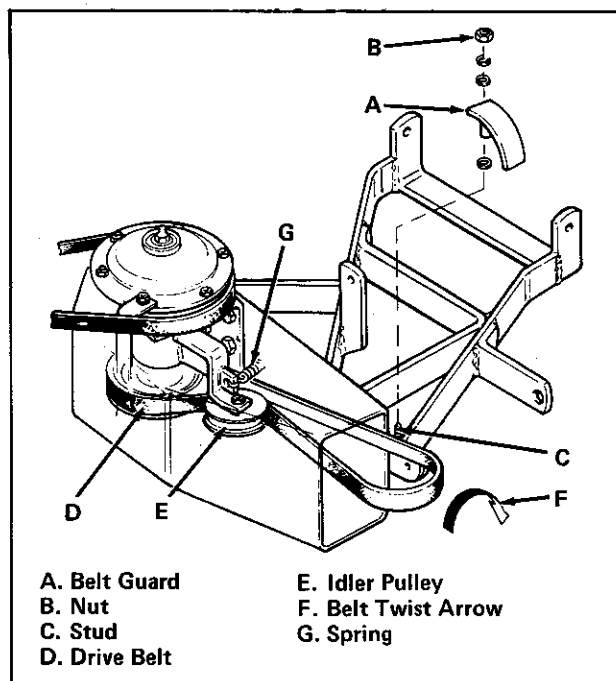
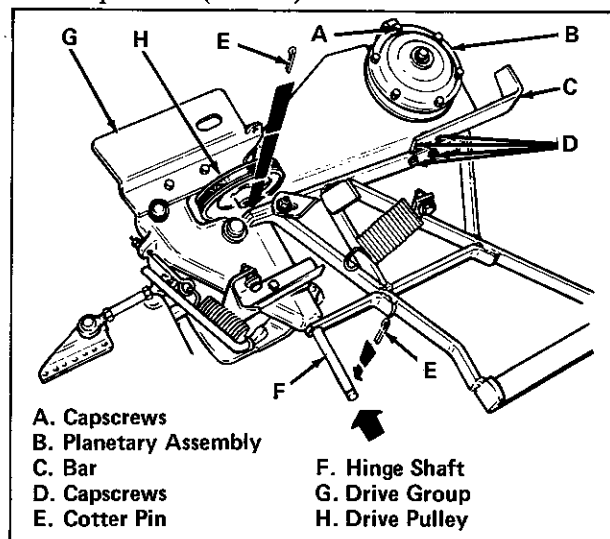
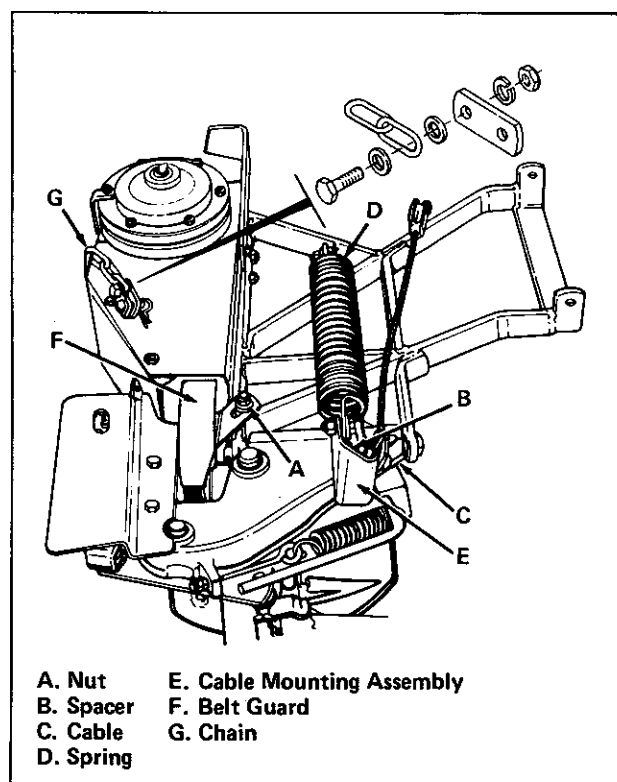

Figure 18. Frame and Drive Pulley
Figure 19. Attaching Drive Group
Figure 21. Spring and Belt Guard Installation
2. Remove belt guard (item A, figure 18) by removing nut (item B). Temporarily store nut and related washers on stud (item C).
3. Loosen three capscrews (item A, figure 19) on bracket and four capscrews (item D) on shroud. Push planetary assembly (item B) towards spring (item G, figure 18) to create slack for belt installation. The bracket may have to be removed to install the lift.
4. Install sickle drive belt (item D, figure 18) over pulley and idler pulley (item E). Then twist belt 1/4 turn clockwise as shown by arrow (item F). Do not hook up spring (item G) at this time.
5. Position drive group (item G, figure 19) as shown in figure 19 and install drive belt over drive pulley (item H).
7. Hook up spring (item G, figure 18) to idler pulley. Push planetary assembly (item B, figure 19) away from drive group to tighten drive belt. Retighten capscrews (items A and D). Lift up on bar (item C) when tightening capscrews (item D).
13. Reinstall belt guard (item F, figure 21) with its washers and lockwashers (see figure 18) and nut (item A, figure 21); positioning slotted belt guard so it does not touch belt or
16. Secure mower mounting chain (item G) using the attaching hardware shown in figure 21.